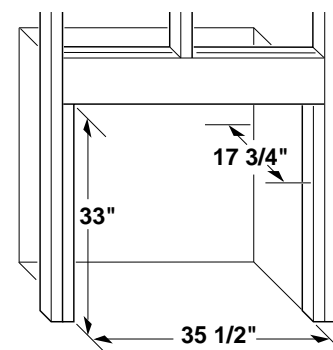

Figure 12 - Rough Opening for Installing in Wall
- Frame in rough opening. Use dimensions shown in Figure 12 for the rough opening.